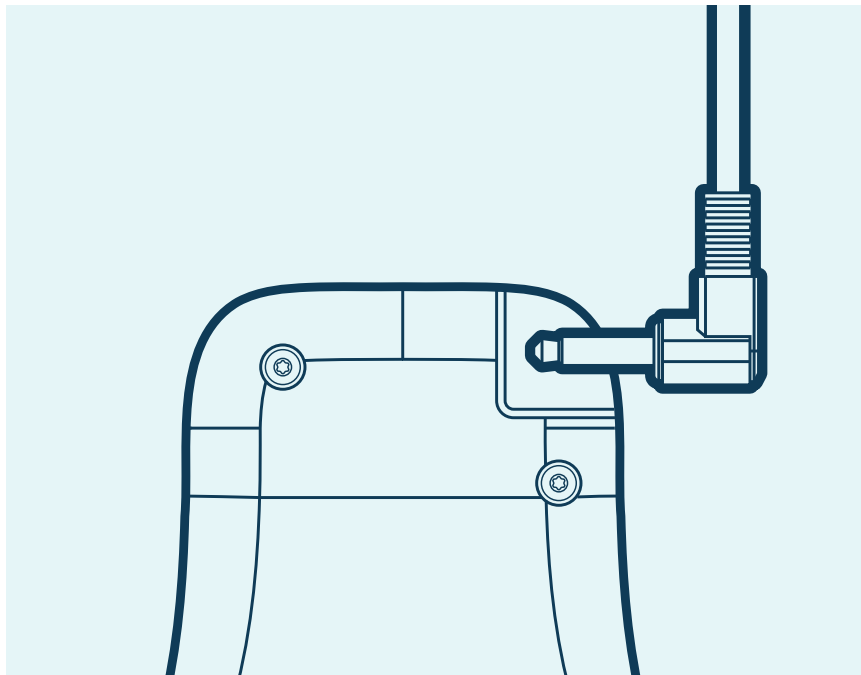

Figure 3: Insert Cable jack into Patient Controller
2. Insert the Cable jack into the Patient Controller (**Figure 3**)